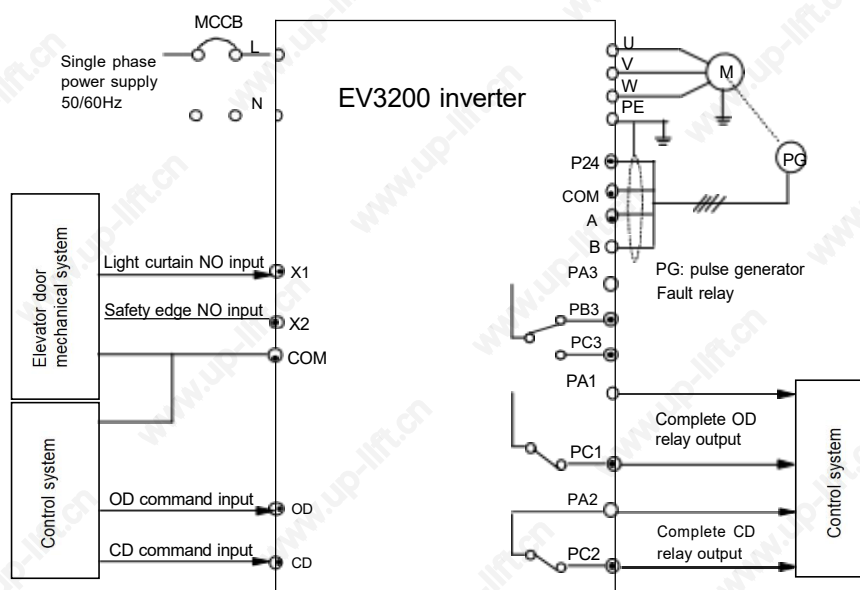
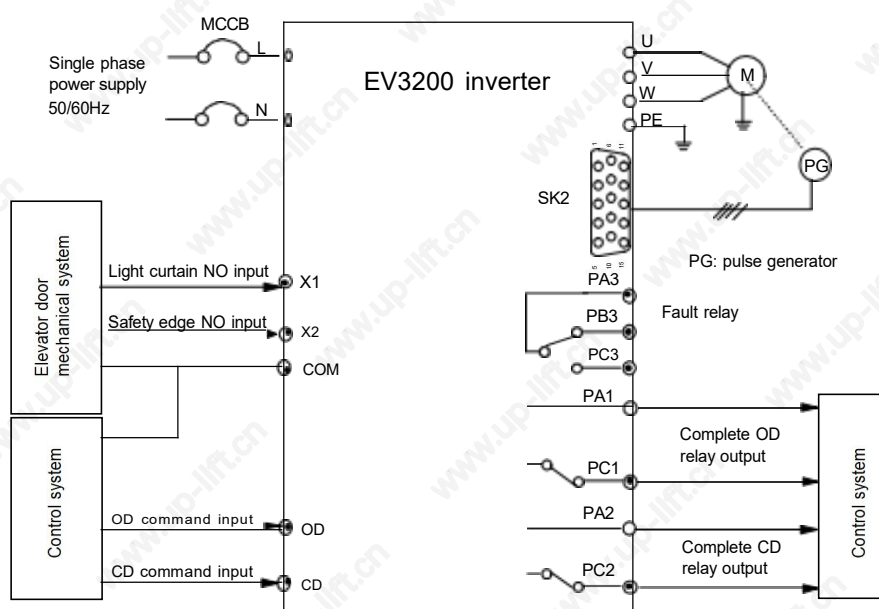

Figure 7-3 System wiring diagram for distance control 1(asynchronous motor)
Figure 7-4 System wiring diagram for distance control 1(synchronous motor, UVW incremental PG)
For distance control 1, PG should be installed on the motor shaft. In distance control, the speed decrease and complete CD and OD judgments are made according to the actual number of pulses counted. System wiring diagram for distance control is shown in Figure 7-3 and Figure 7-4.
1. Do the wiring according to Figure 7-3 and Figure 7-4 (refer to 3.4 *PG Terminals Of Synchronous Motor* and 3.5 *Wiring Diagram Of Inverter* for PG wiring).
Figure 7-3 provides the parameter settings.
In this mode, refer to Figure 7-3 for the system configuration, the PG may not be connected to the motor shaft.
Figure 7-4 provides the parameter settings.